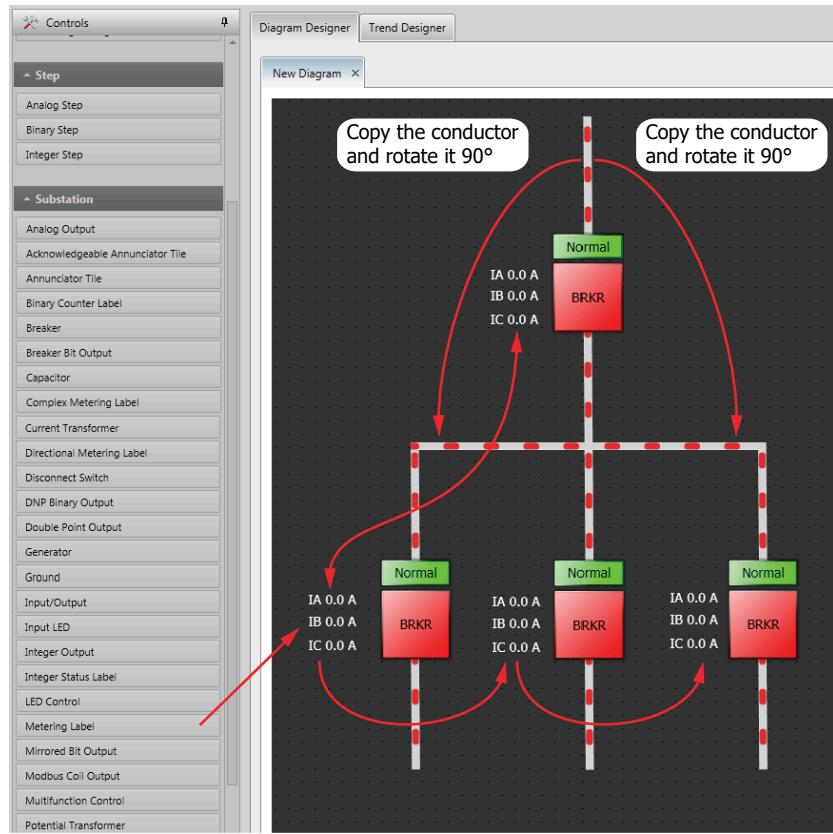

Figure 5.2 Example Control Layout
Step 10. Position the groupings similar to *Figure 5.2*.
Step 12. Right-click and rotate each **Conductor** two 45-degree steps, for a total of 90 degrees. Place each **Conductor** in the same bus location as *Figure 5.2* indicates.